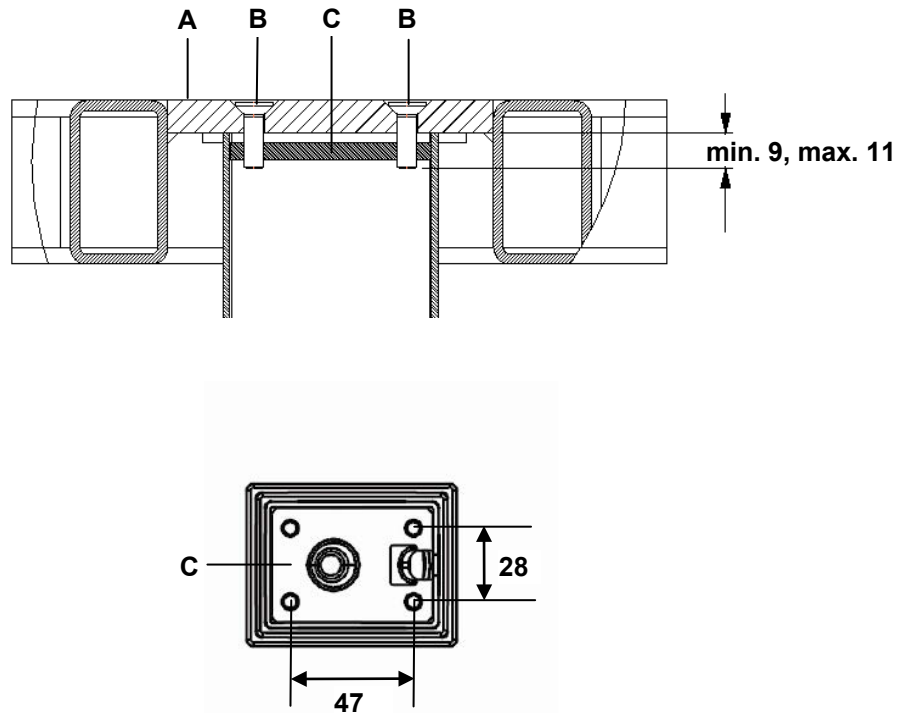
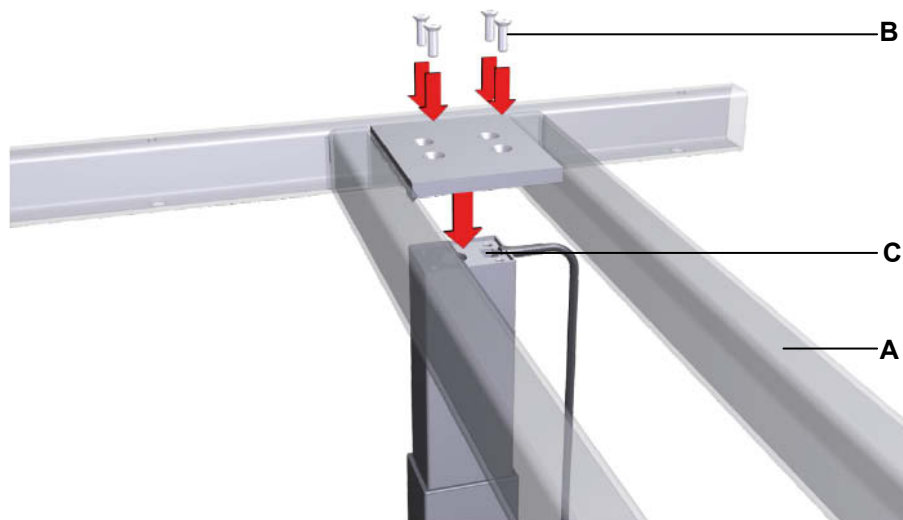

Figure 14 Mounting the table frame (dimensions in mm)
Figure 15 Mounting the table frame
- ▶ Use M6 screws (grade 8.8) of suitable length so that the depth is at least 9 mm and a maximum of 11 mm, as shown in Figure 14 (screw length = thickness of the mounting plate + min. 9 to max. 11 mm). The tightening torque must not exceed 10 Nm.
- 1 Set the table frame so that the holes are over the lifting column. Use four screws to attach the table frame to the head end of the ID21 lifting column, as shown in Figure 15 (maximum tightening torque is 10 Nm). The mounting dimensions are shown in Figure 14.